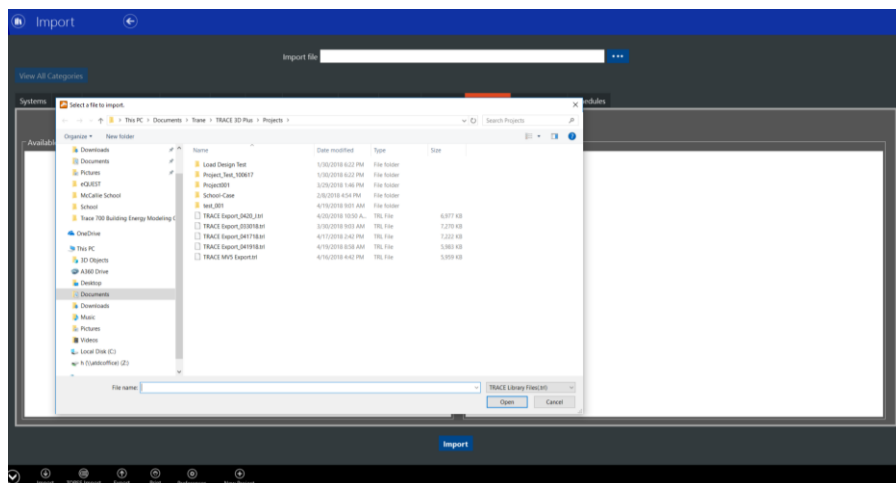

Figure 24: Importing Library File
5. As shown in Figure 24, click “Trace LG MV5.trl” file and click “Open” > “Check All” > “Import.”